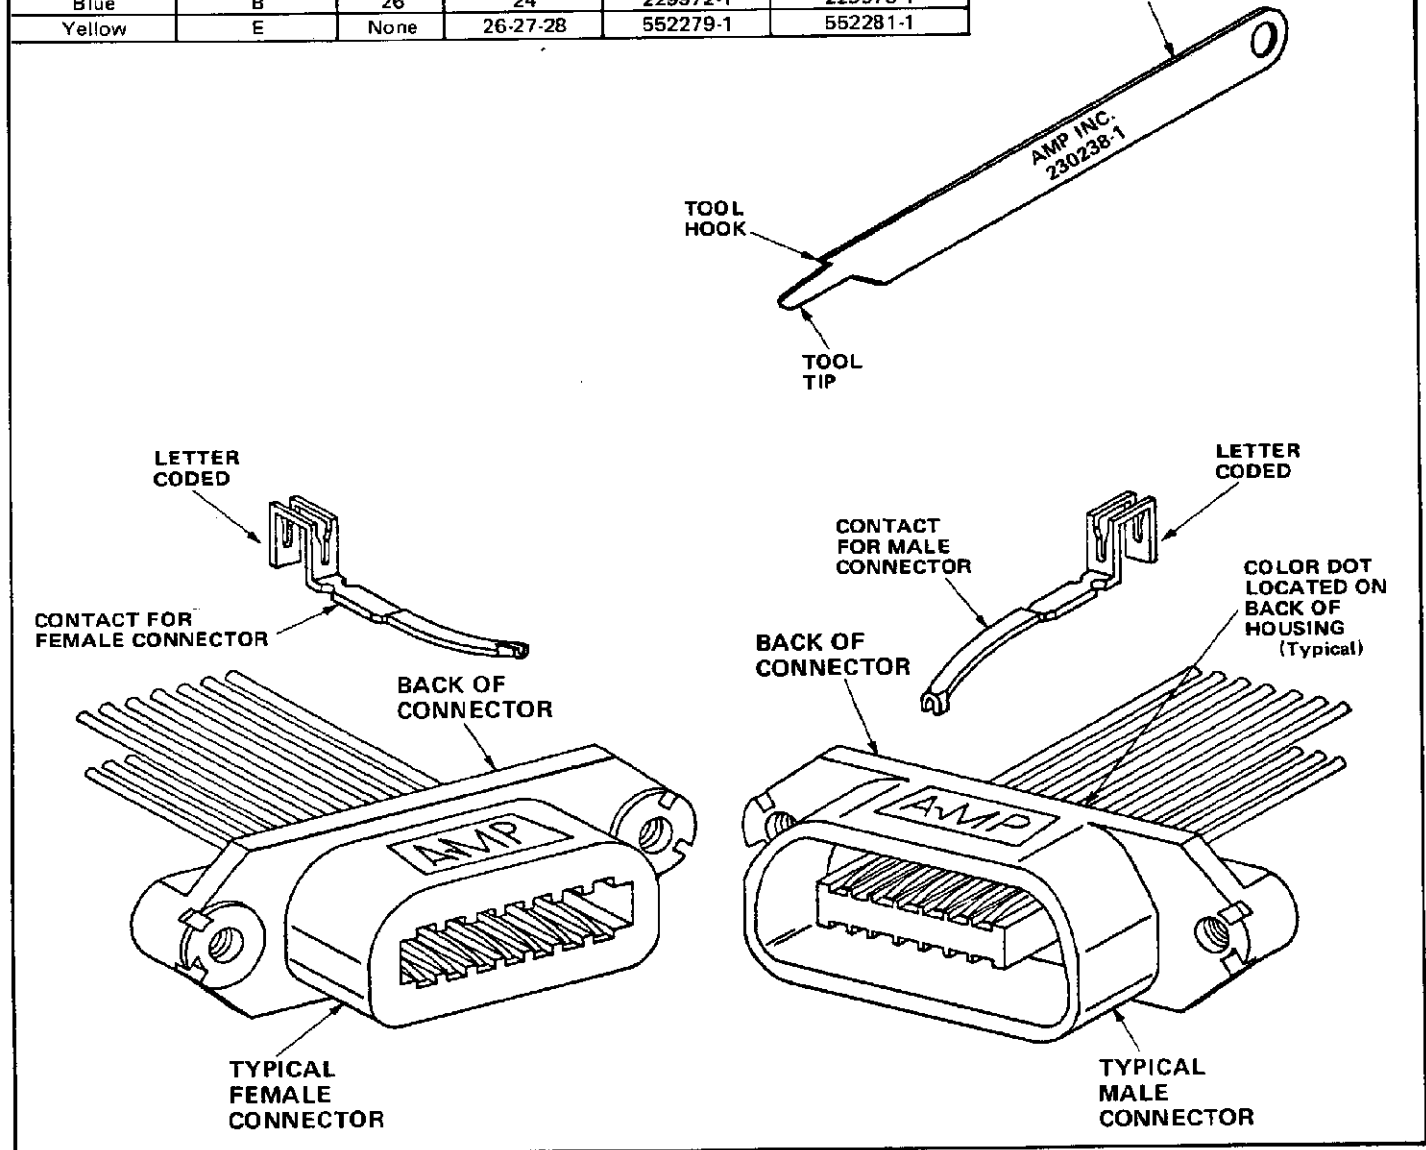

FIGURE 1
This instruction sheet (IS) covers the use of the AMP Insertion/Extraction Tool 230238-1. This tool is designed to replace damaged contacts in the AMP CHAMP★ Male and Female Connectors. See Figure 1.
The functional end of this tool has a specially contoured hook and tip. The hook is designed to release contact barb, and the tip is designed to extract and insert contacts. See Figure 1. Proper use of this tool will prevent damage to the wire, contact, and housing.
5. Check the color code dot on the back of the housing — then refer to the chart in Figure 1 and select the applicable contact. (Also note that the contacts are letter coded to correspond with the wire size to be used.)